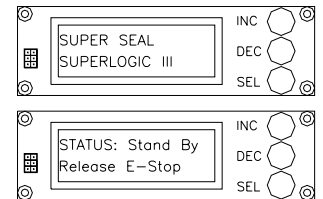

FIG. F2
- The Display on the “SuperLogic III” Controller will read as follows. (Figure F2). First the display will show Company Logo and Type of Controller for two seconds.